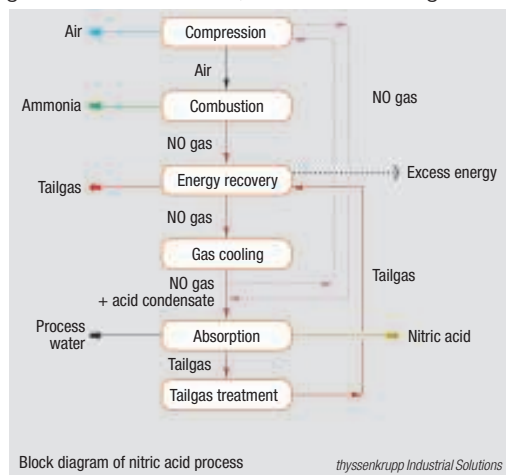

FIGURE 3. Industrial production of nitric acid uses the Ostwald process, which involves ammonia oxidation, followed by absorption of NO_2
Large-scale NA production is still performed using the Ostwald process (Figure 3), whereby NH₃ is first oxidized with air over a platinum catalyst at temperatures of around 900°C. NH₃ combustion forms oxides of nitrogen [NO_x; Reactions (1) and (2)], which is then absorbed in water to form HNO₃ [Reaction (3)]: